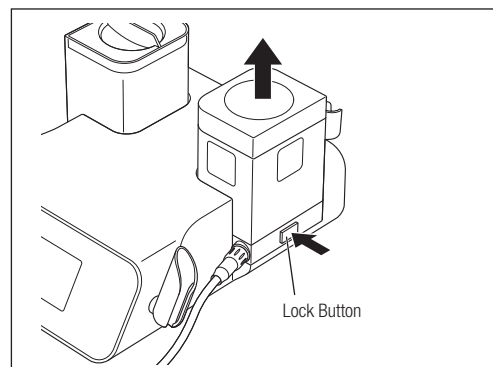

Fig. 41
- 3) Push the Lock Button to remove the Chamber. Then pull up the Chamber straight (Fig. 41).